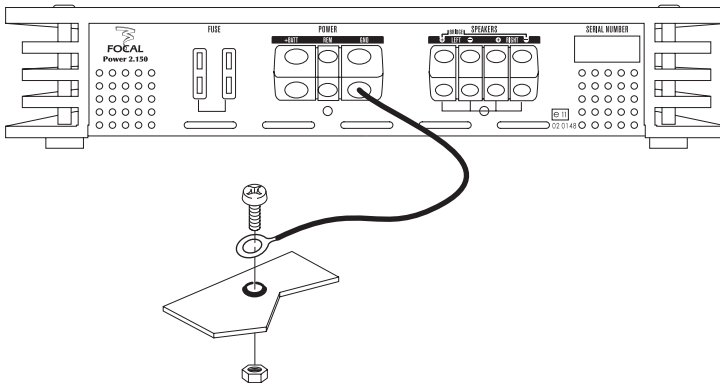

fig. 4
- 10 - Prepare the chassis ground by scraping any trace of paint on the metal surface in order to ensure correct grounding. The grounding connections should also be as short as possible and ALWAYS connected to the metal welded to the body or the chassis of the vehicle. (fig. 4).
**3.4** - Get hold of the negative power cable. This cable should be as short as possible and ideally should not be any longer than 1 metre, to ensure effective coupling between the amplifier and the car's chassis. The cable and its wire gauge should comply with the table on page 7. Find a suitable ground point (see fig. 4), then sand it to remove any traces of paint or other covering and in so doing optimise the contact point. Pierce the metal that you have previously sanded, making a hole the same size as the screw you are using, making sure that there are no tank cables or any other sensitive vehicle devices nearby. Remove the plastic around 1 cm of cable and then tin it. Screw the cable firmly down onto the amplifier's GND terminal. Tin the other end of it and then crimp or weld it onto the terminal lug provided. Insert the terminal lug in the screw, and then put the screw and nut in place and screw-drive the screw in firmly.